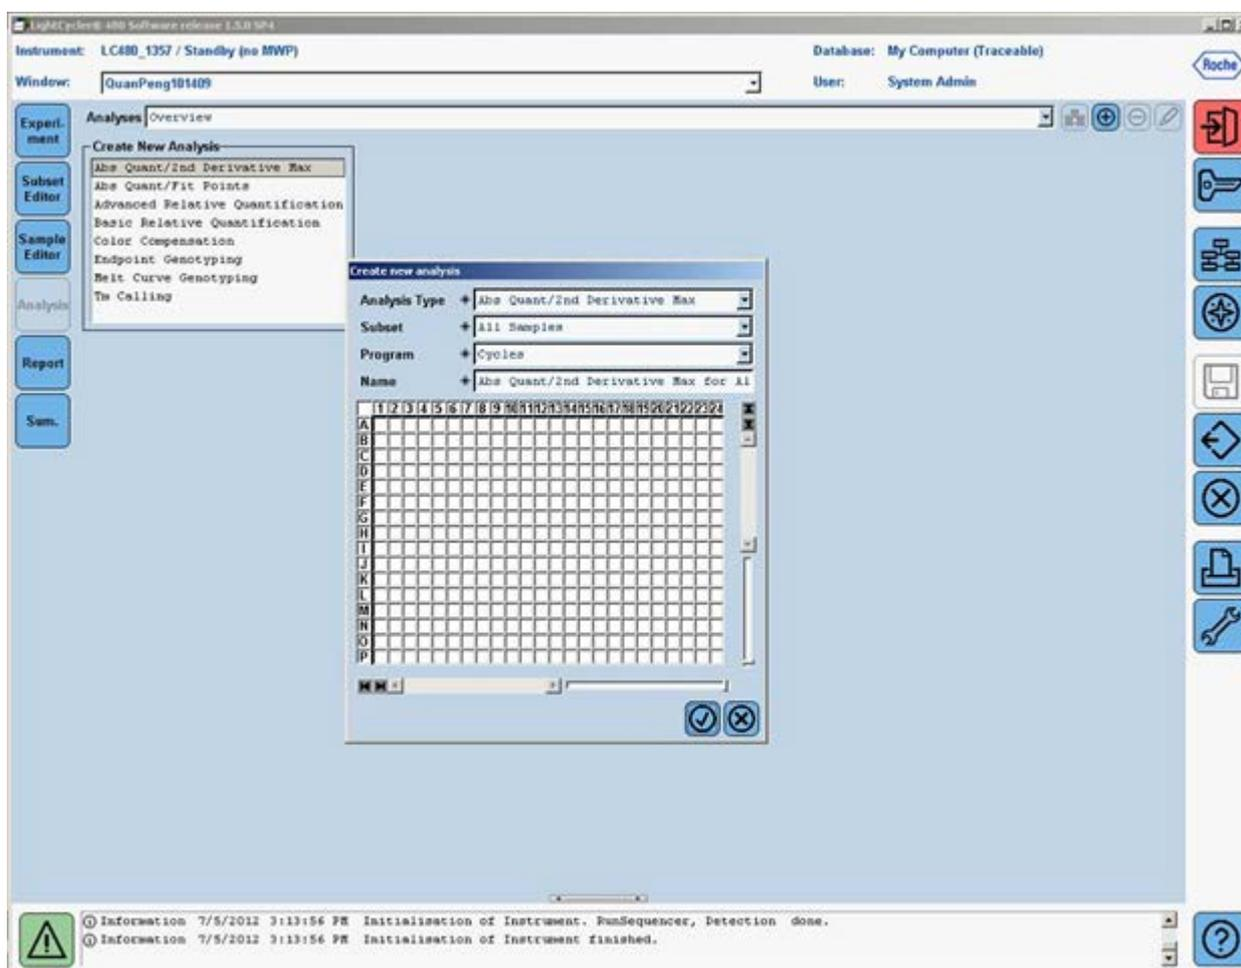

Figure 9. Setting up the analysis for the second derivative maximum.
3. Obtaining the crossing point (Cp) cycle values: Once the selected run file is open, click the “Analysis” button on the left-hand side of the window. In the “Create new analysis” list, double-click to select “Abs Quant/2nd Derivative Max”. In the “Create new analysis” window that opens, make sure the Analysis Type is “Abs Quant/2nd Derivative Max” (Figure 9). Click  to confirm the selection.